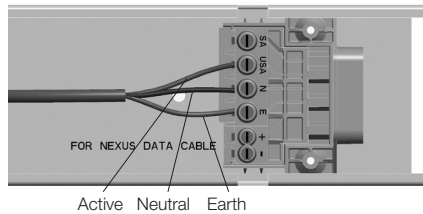

Figure 1: Quickfit terminal block connection
- Run the cables in the ceiling or wall space as appropriate or surface mounted in conduit and through the cable hole into the bracket. Strip, connect and terminate the cables as indicated in figure 1. Ensure that the double insulation of the cable/s passes completely into the terminal block enclosure so that no single insulation is exposed when the cover is in place. The hole plug set includes a suitable bush to mechanically protect the cable as it passes through the opening in the mounting bracket. Likewise, the single insulation of the conductors should run right up to the metal edge of the terminals leaving no bare conductors outside of the terminals. Be careful with multi-strand conductors that all of the strands are twisted together before insertion into the terminal. Any stray strands that inadvertently come into contact with their neighbouring terminal or the metal frame of the fitting will cause undesirable results when the fitting is powered.